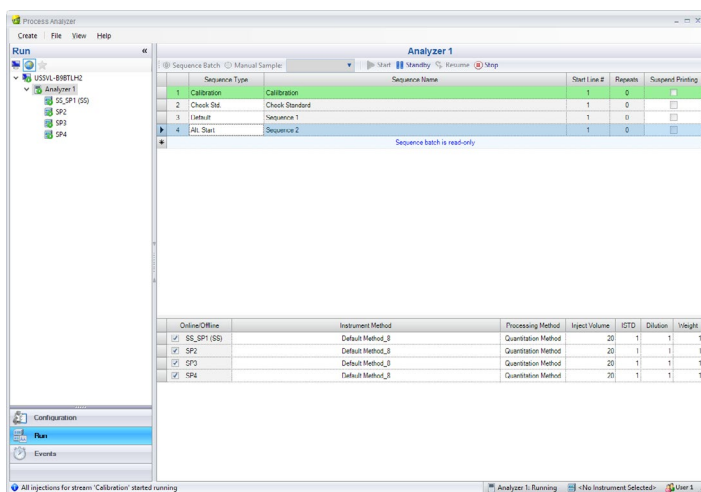

Figure 6. Chromeleon 7 PA software: Analyzer sequence run
- Single-pass batch sequences or continuous sequencing; a feature unique to Chromeleon 7 PA software (Figure 6)